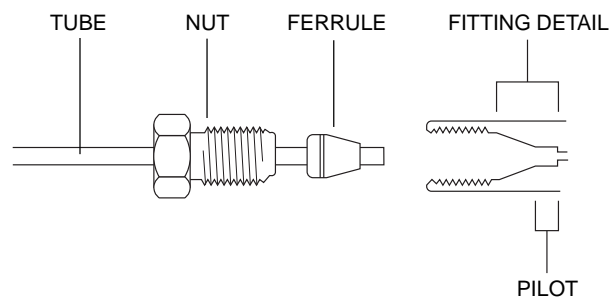

Figure 1: Parts of a Valco fitting
Valco fittings are available in various metals (for use with metal tubing) and in PEEK (for use with PEEK tubing.) While metal ferrules can be used with PEEK and other polymeric tubing, polymeric ferrules (including PEEK) should *not* be used with metal tubing. The Valco Zero Dead Volume fitting is comprised of four parts: a female zero volume fitting detail, a male nut, a ferrule, and a length of tubing. (See Figure 1) Since the leak-tightness and integrity of the fitting is dependent upon tubing preparation and proper assembly, this publication addresses those two topics.
1. Slide the nut and ferrule onto the tubing in the order shown in **Figure 1**.